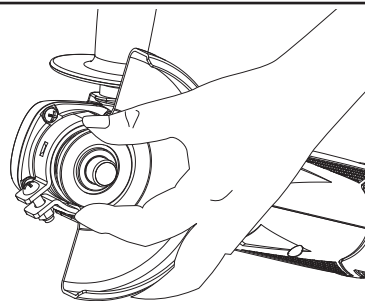
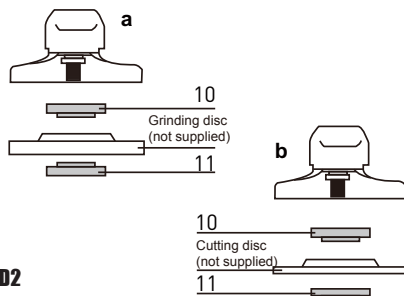

Fig. D1
Fig. D2
### 4. FITTING THE DISCS (See Fig. D1, D2, D3)
Put the inner flange (10) onto the tool spindle. Ensure it is located on the two flats of spindle (See Fig. D1). Place the disc on the tool spindle and inner flange (10). Ensure it is correctly located. Fit the threaded outer flange (11) making sure it is facing in the correct direction for the type of disc fitted. For grinding discs, the flange is fitted with the raised portion facing towards the disc. For cutting discs, the flange is fitted with the raised portion facing away from the disc (See Fig. D2).